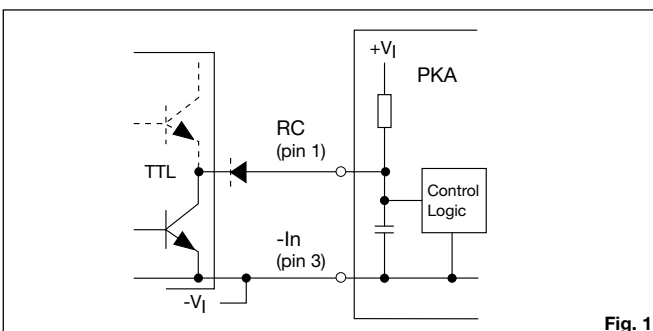

Fig. 1
Turn-on or turn-off can be realized by using the RC-pin. Normal operation is achieved if pin 1 is open (NC). If pin 1 is connected to pin 3 the PKA DC/DC power module turns off. To ensure safe turn-off the voltage difference between pin 1 and 3 shall be less than 1.8 V. RC is TTL open collector compatible (see fig. 1). Pin 1 is an output and no current should be driven into pin 1. Use a diode if necessary e.g. totem pole TTL logic. The internal pull-up resistance is 36 kΩ.